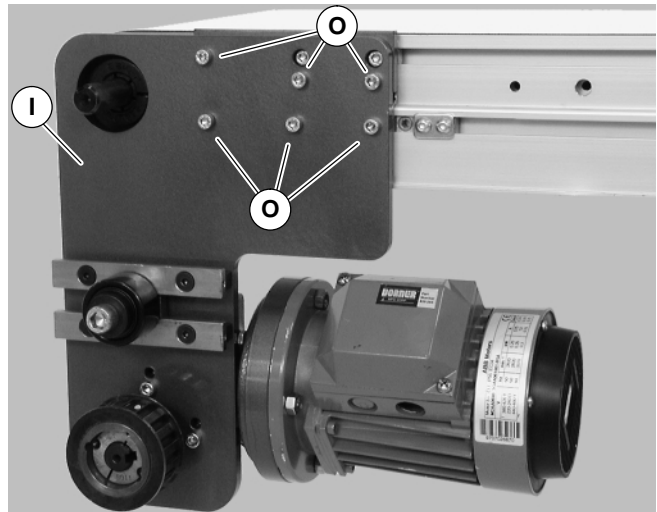

Figure 7
4. Attach mount assembly (I of Figure 7) with screws (O). Install medium length screws on bottom, long screw upper left, short screws upper right. Tighten screws to 9 Nm.